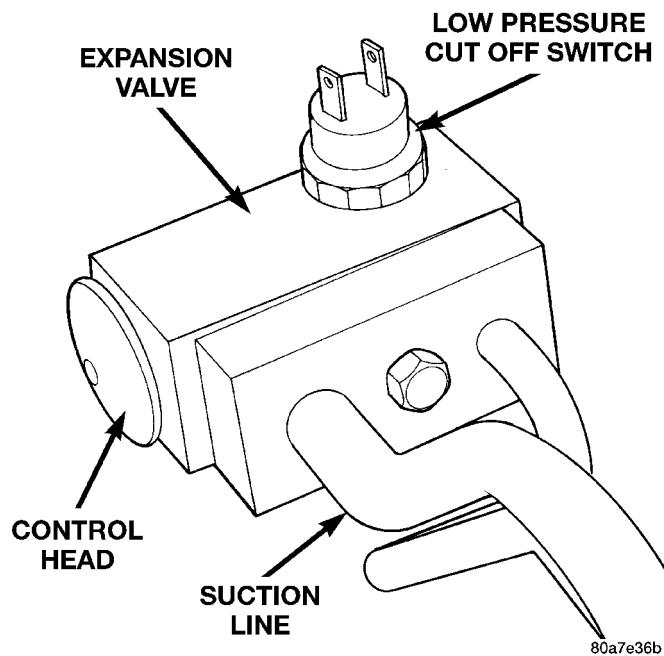

Fig. 13 Low Pressure Cut-Off Switch
(1) Connect a charging station or manifold gauge set to the refrigerant system service ports.
(2) Disconnect wire connector at low pressure cut-off switch (Fig. 13). Using a jumper wire, jump terminals inside wire connector boot.
(7) If suction side low pressure is within specified range, freeze the expansion valve control head (Fig. 13) for 30 seconds. Use a super cold substance (liquid CO₂). **Do not spray refrigerant on the expansion valve for this test.** Suction side low pressure should drop to 34.5 kPa (5 psi). If not, replace expansion valve.
(8) Allow expansion valve to thaw. The low pressure gauge reading should stabilize at 103 to 241 kPa (15 to 35 psi). If not, replace expansion valve.
(9) When expansion valve test is complete, test A/C overall performance. Refer to the Heater and A/C Performance Test in this section. Remove all test equipment before returning vehicle to use.